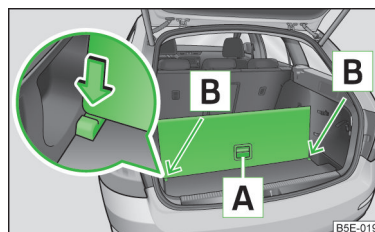

Fig. 100
- Raise the rear of the variable loading floor by the handle **A** » Fig. 100.